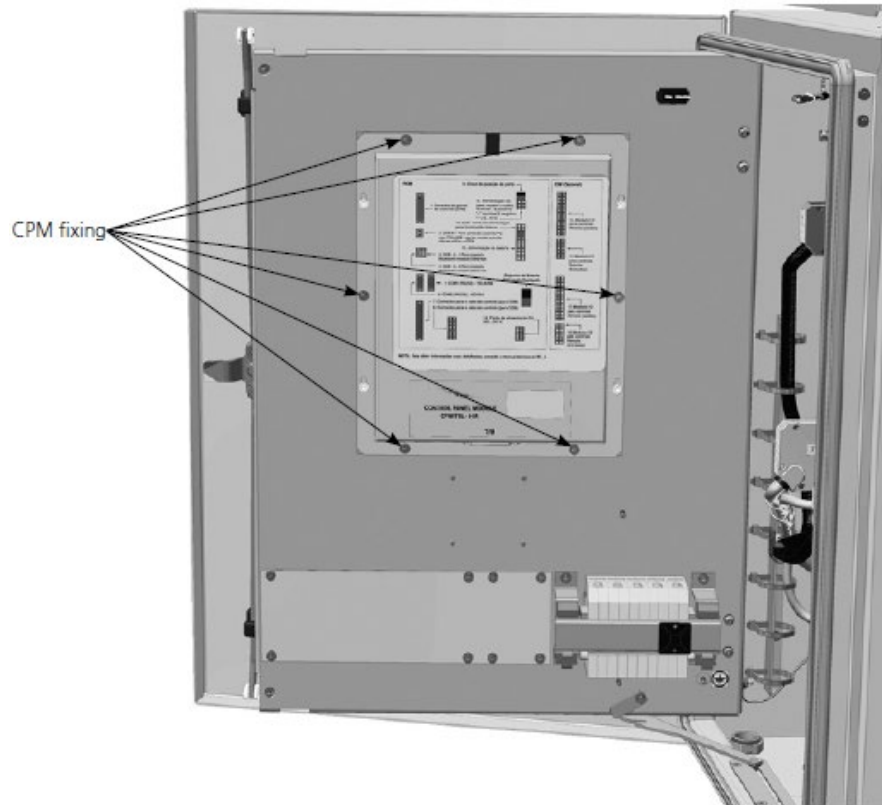

Figure 85
- 2) Unscrew six nuts fixing the CPM and remove the washers (Figure 85);